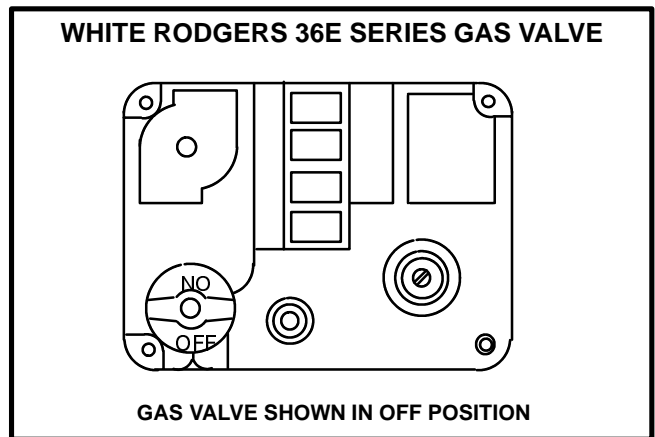

FIGURE 2
Gas Valve Operation (Figures 2 and 3)
- 6 - *White Rodgers 36E Gas Valve* - Turn knob on gas valve 180° either way to **OFF**. See figure 2.